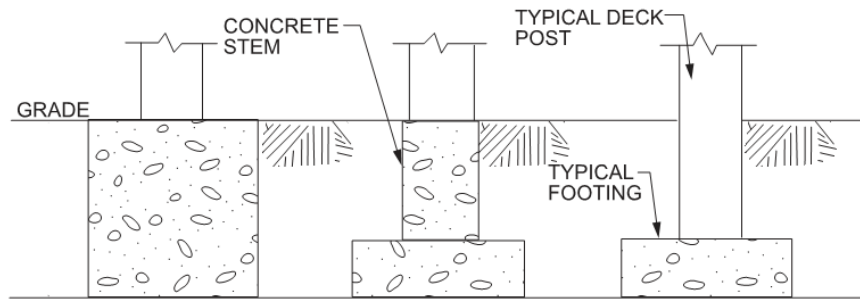

Figure 5: Types of Footings
2. There are a multitude of ways to successfully construct a code compliant footing. Some select examples of footings are shown in Figure 5 (below). Footing dimensions, placement and footing form specifications will be required with the permit application and accompanying design drawings.